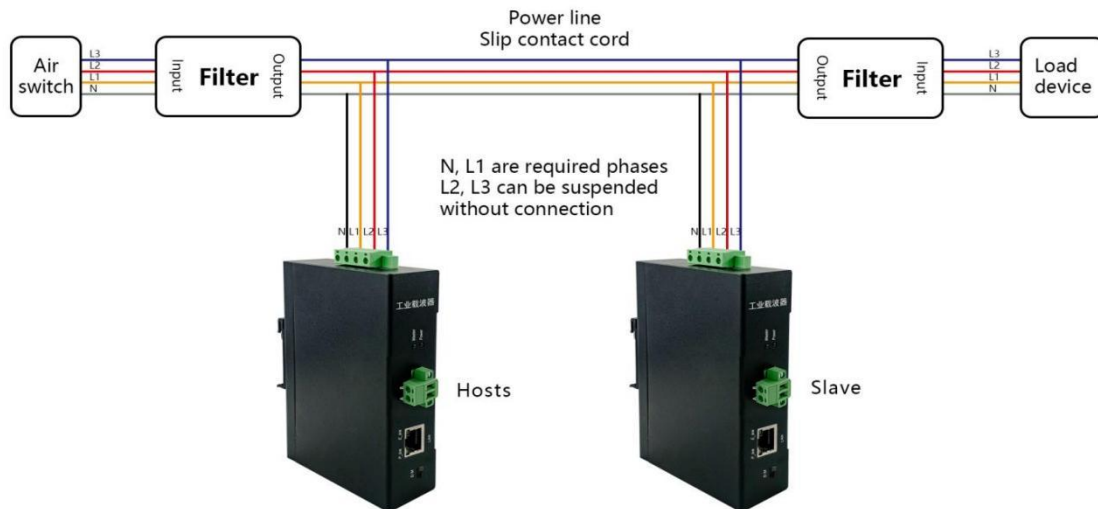

Figure 2
2、 Three-phase power line: Carrier's N,L1,L2,L3 are connected in parallel on three-phase four-wire, N,L1 port must be connected, L2,L3 ports can be suspended not connected or connected in parallel to the power line, no distinction between phase sequence. Wiring diagram, as shown in figure 2: